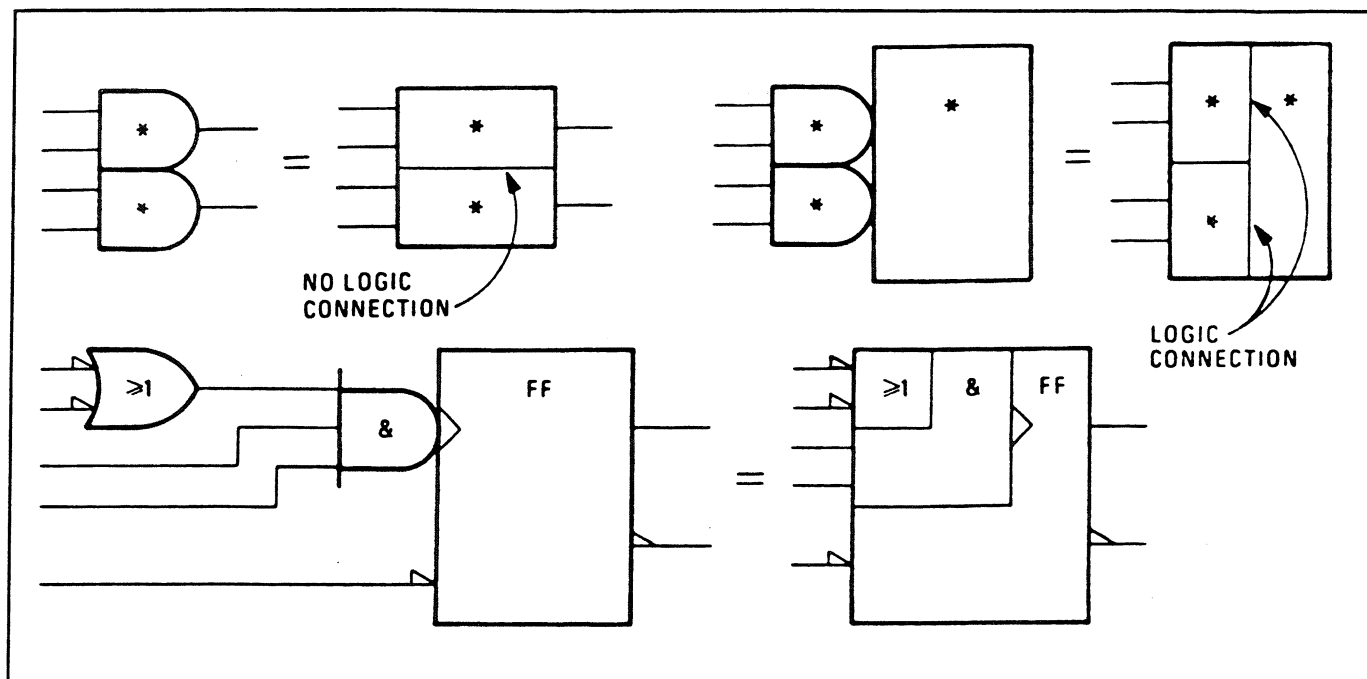

Figure A-4. Contiguous Blocks
**Contiguous Blocks.** Two symbols may share a common boundary parallel or perpendicular to the direction of signal flow. Note that in the example shown in Figure A-4 there is generally no logic connection across a horizontal line, but